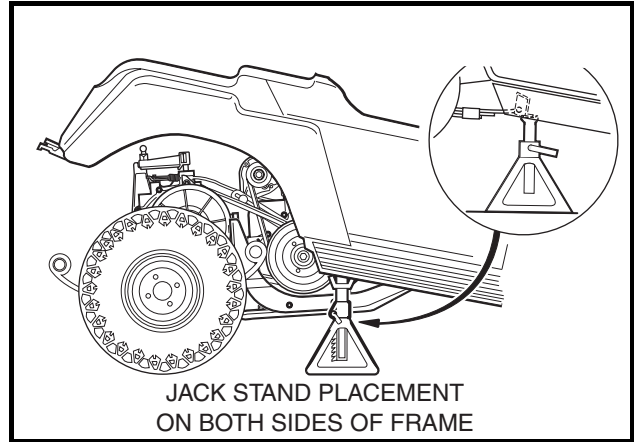

Figure 18-25 Position Jack Stands
- Position jack stands, adjusted to support the vehicle at this height, under the frame crossmember between the leaf spring mounts and side stringers, just forward of each rear wheel. Lower the floor jack to allow the jack stands to support the vehicle (**Figure 18-25, Page 18-11**).